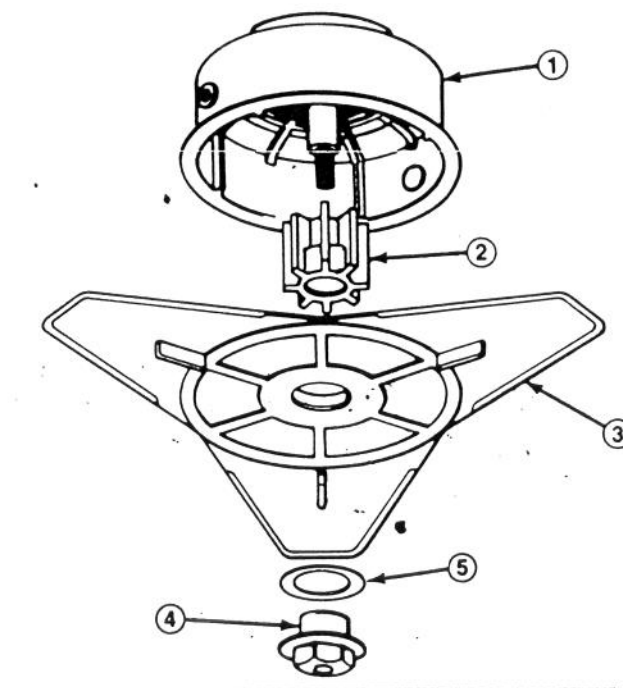

Figure 1
2. Place smaller inside diameter end of blade adapter over power shaft and drum boss (Fig. 1).
4. Slide washer onto adapter nut (Fig. 1).
5. Install adapter nut through hole in flex blade and thread onto power shaft (Note: R.H. thread). Tighten adapter nut firmly with wrench (Note: 7/8" hex) while holding drum with hand (Fig. 1).